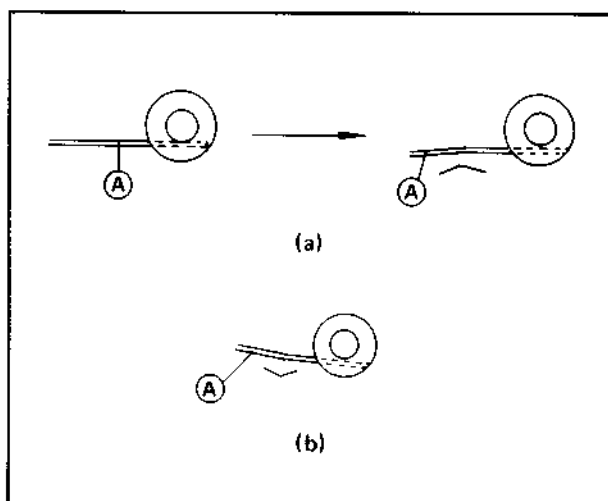

Fig. 4-11
6. If the measured supply loading back tension is greater than 50 grams, slightly and carefully bend the supply loading idler lever at point A as shown in Fig. 4-11(a).
7. If the measured supply loading tension is less than 40 grams, bend the supply loading lever at point A as shown in Fig. 4-11(b).